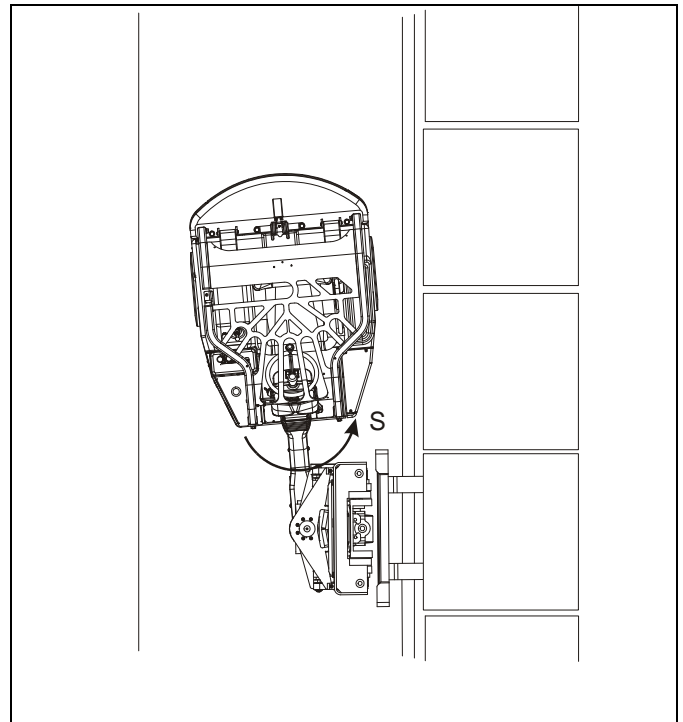

Figure 4-23: No-Load Position
When you lower the forks to the “no load” position, make sure you do not lower the forks too far. See Figure 4-23. If the forks are lowered too far beyond the “no load” position, you can damage the mast, rack, or other containers on the stack. This can cause serious injury or death.
10. Lower the forks until the load sits firmly on the rack. Continue to lower the forks until they no longer support the load (‘no load’ position). See Figure 4-23.